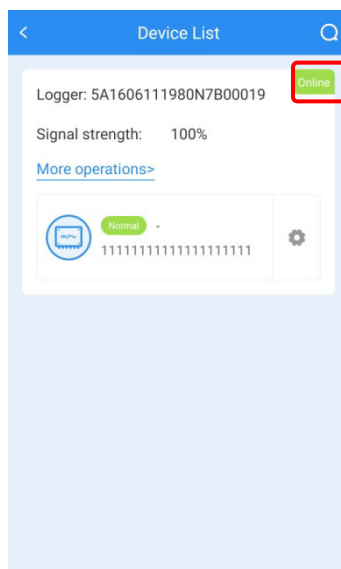

Figure3-37 Device list
Step 8 Back to main page, the device status turns to "**Online**" from "**Offline**", as shown in Figure3-37.